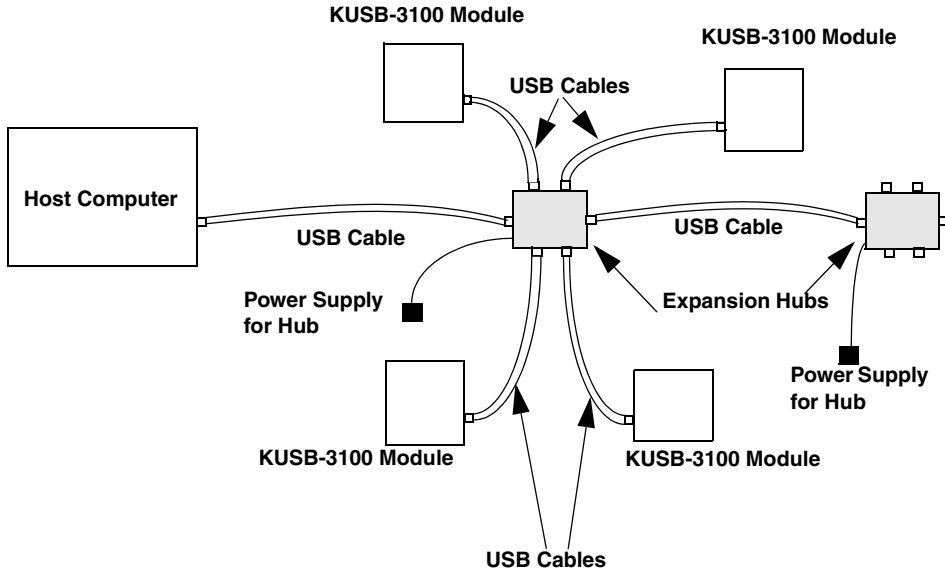

Figure 3: Attaching Multiple KUSB-3100 Modules Using Expansion Hubs
- Repeat these steps until you have attached the number of expansion hubs (up to five) and modules (up to four per hub) that you require. Refer to Figure 3.